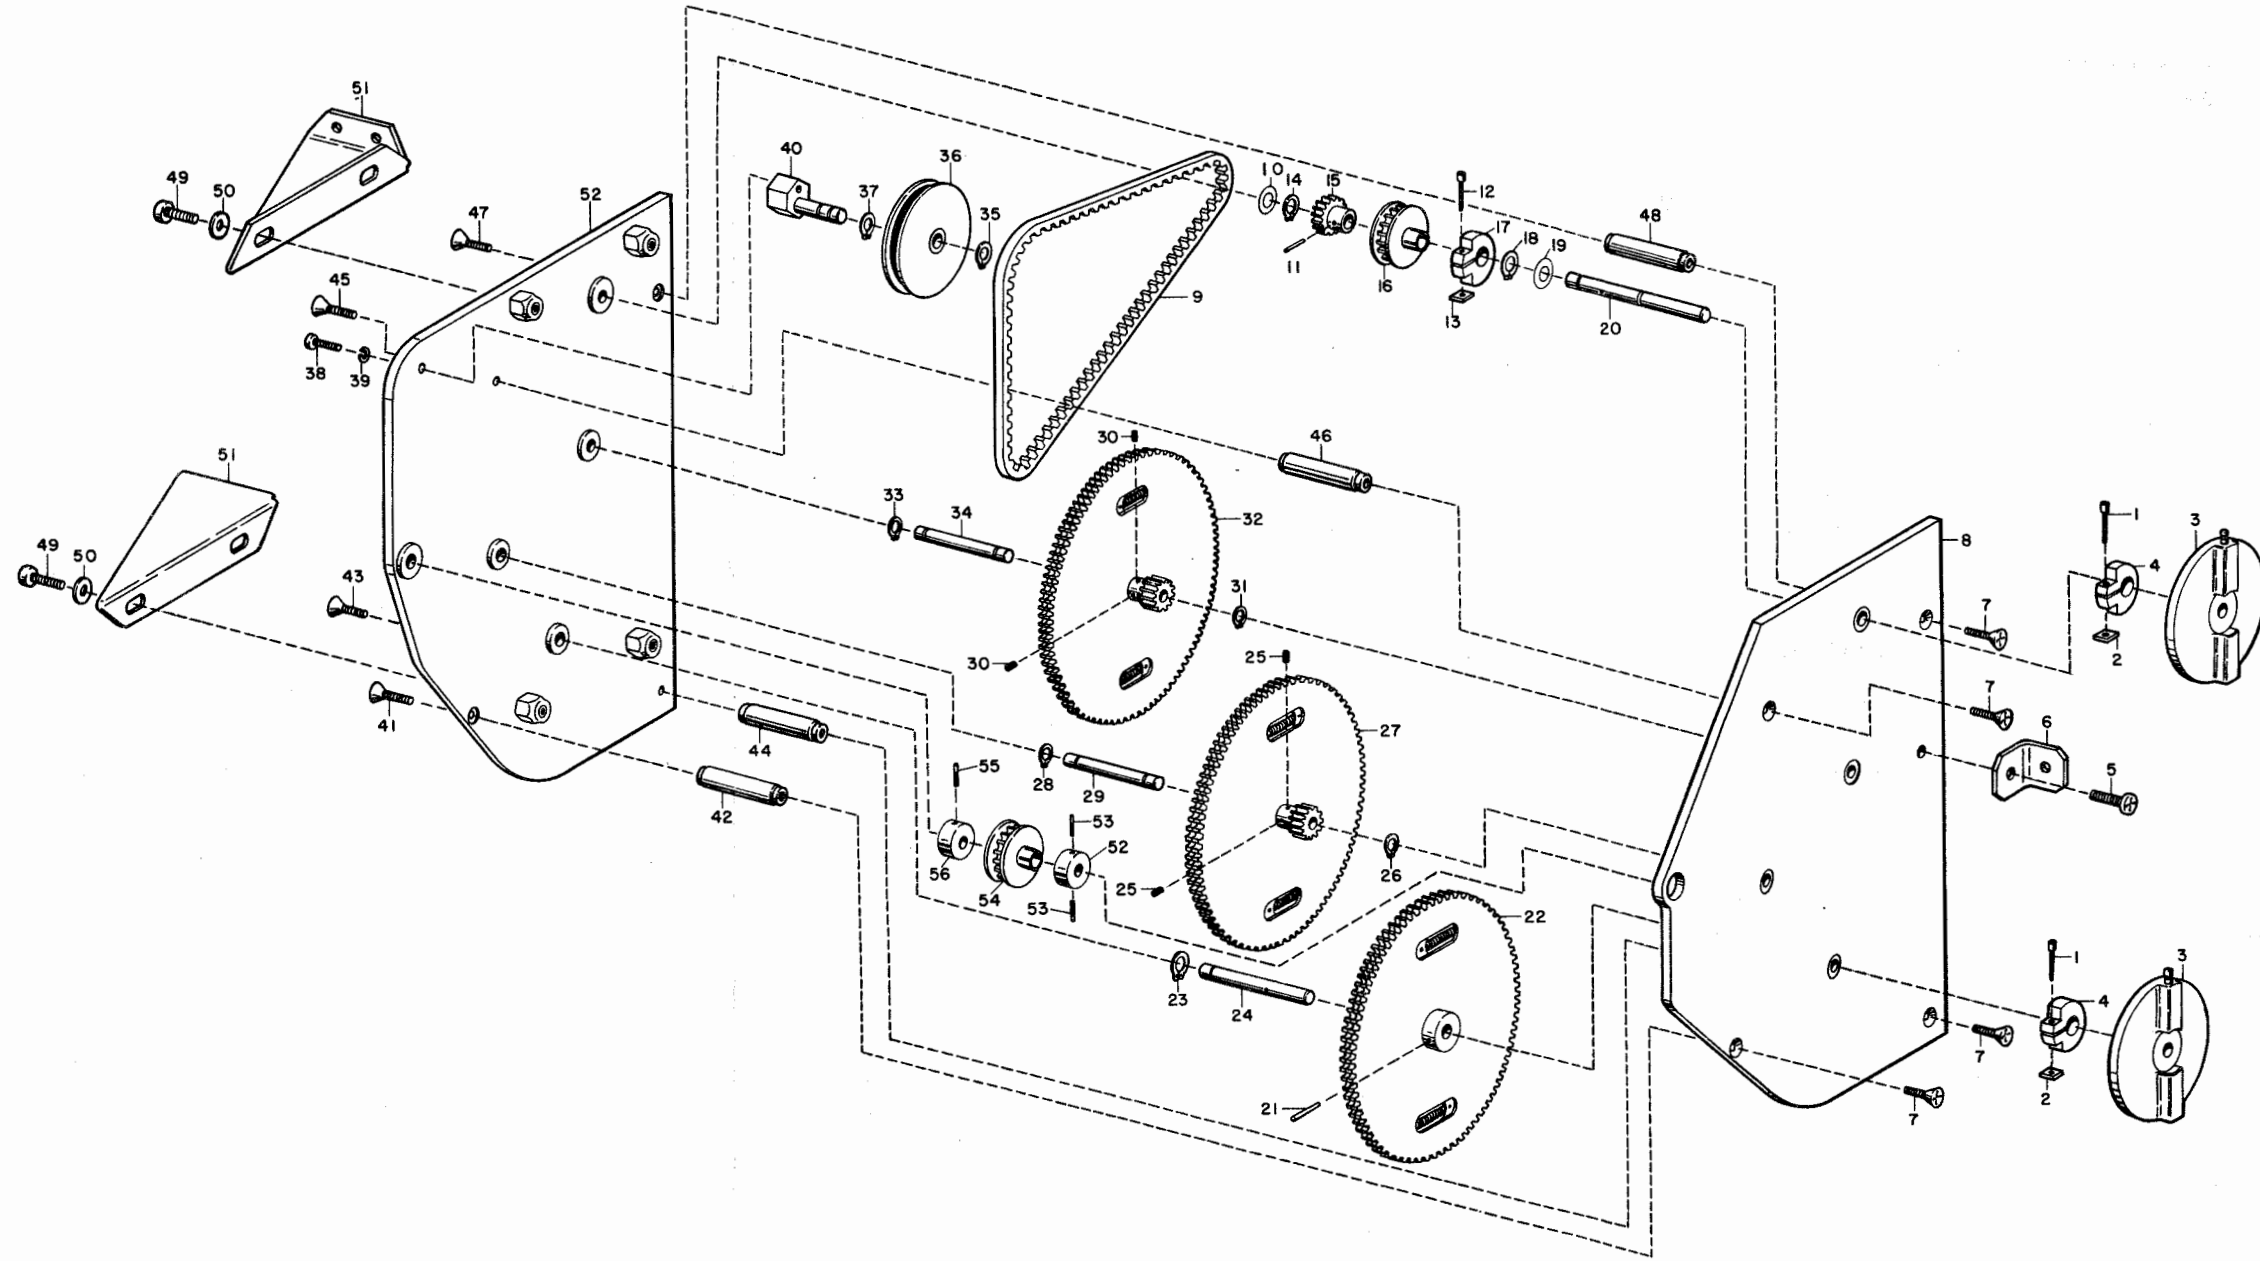

Figure 6-4. Stabilized Master Oscillator
(27) Carefully fit gear plate (33) onto the spacers that are mounted on gear plate (65) and at the same time mesh the gear on cam (22) with gear (37), also pull back on the arm lock (30) allowing the end of the arm lock (30) to ride on the cam (22). The bearing on the shaft of gear (40) should also fit the hole in gear plate (33).
(28) Secure gear plate (33) with bolts (1), (2), (3), (4), (5), (6), (7), and (10).
(29) Place ring (14) on hub (11) and secure with washers (13) and drive pins (12). Place this assembly into hole in gear plate (33) as shown, into the shaft hole in gear (39). This will hold the gear in place until gear assembly is mounted on the smo and the master oscillator is installed.
(30) Place a 1/4-inch shaft or secure with wire gear (35) until the gear assembly is being mounted on the smo.
b. SMO TUNER GEAR ASSEMBLY. - Refer to table 5-13 and paragraph 5-3d. for inspection of gears. Refer to figure 6-4 and assemble gear train as follows:
(1) Mount brackets (51) to gear plate (52) with bolts (49) and lock washers (50).
(2) Mount spacer (48) to gear plate (52) with bolt (47).
(3) Mount spacer (46) to gear plate (52) with bolt (45).
(4) Mount spacer (44) to gear plate (52) with bolt (43).
(5) Mount spacer (42) to gear plate (52) with bolt (41).
(6) Mount shaft (40) to gear plate (52) with bolt (38) and lock washer (39). Leave bolt loose.
(7) Secure retaining ring (37) onto shaft (40).
(8) Place pulley (36) on shaft (40) and secure with retaining ring (35).
(9) Place retaining ring (33) on shaft (34) and place shaft (34) into bearing on gear plate (52).
(10) Screw setscrews (30) into hub of gear (32).